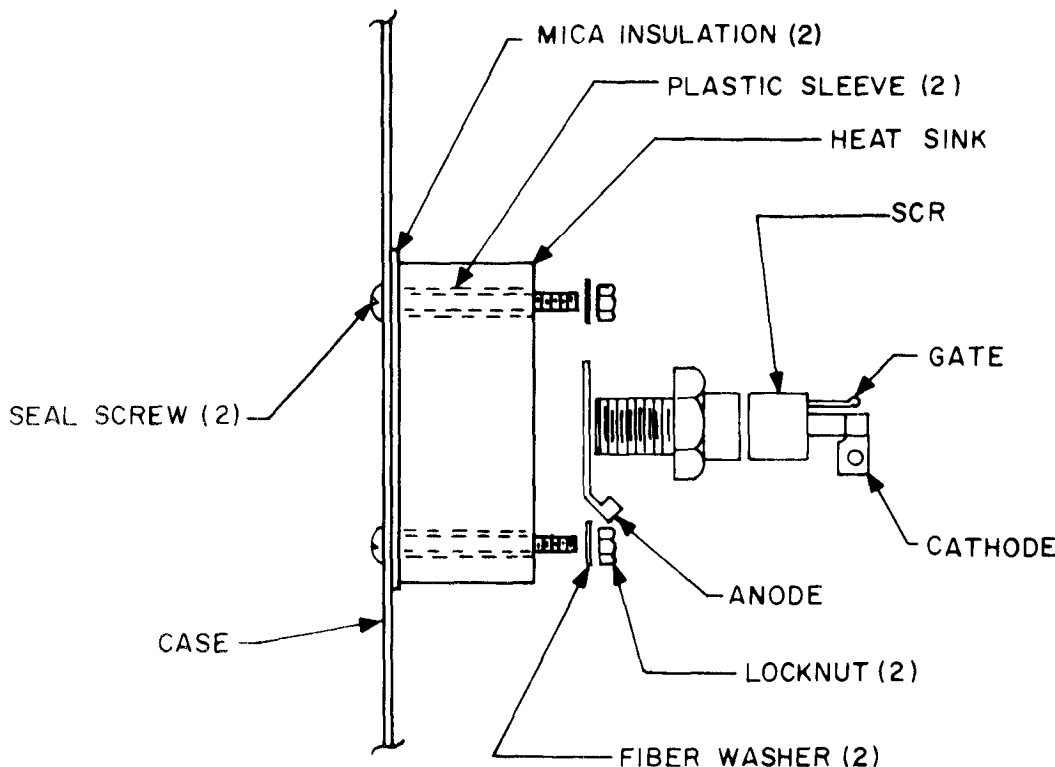

Figure 4-28. Power SCR Installation Detail.
- a. Apply heat sink compound (item 9, table 1-16) to the area of the case where the mica insulation makes contact with the case and to the case side of the heat sink.
- b. Insert two seal screws (fig. 4-28) through case and place two pieces of mica insulation over pro-